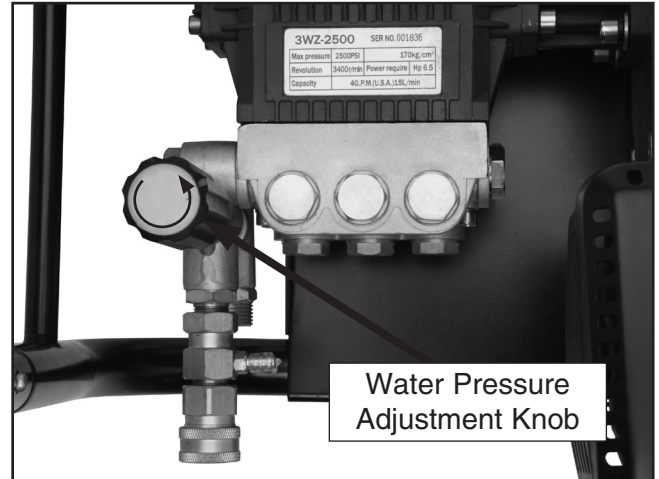

Figure 6. Reducing the pump pressure.
- ADJUST THE PRESSURE REGULATOR ON THE PUMP. Turn the pressure regulator knob counter-clockwise to lower the pressure (**Figure 6**). Once you have finished using your pressure washer, return the regulator to its original position by turning it clockwise.